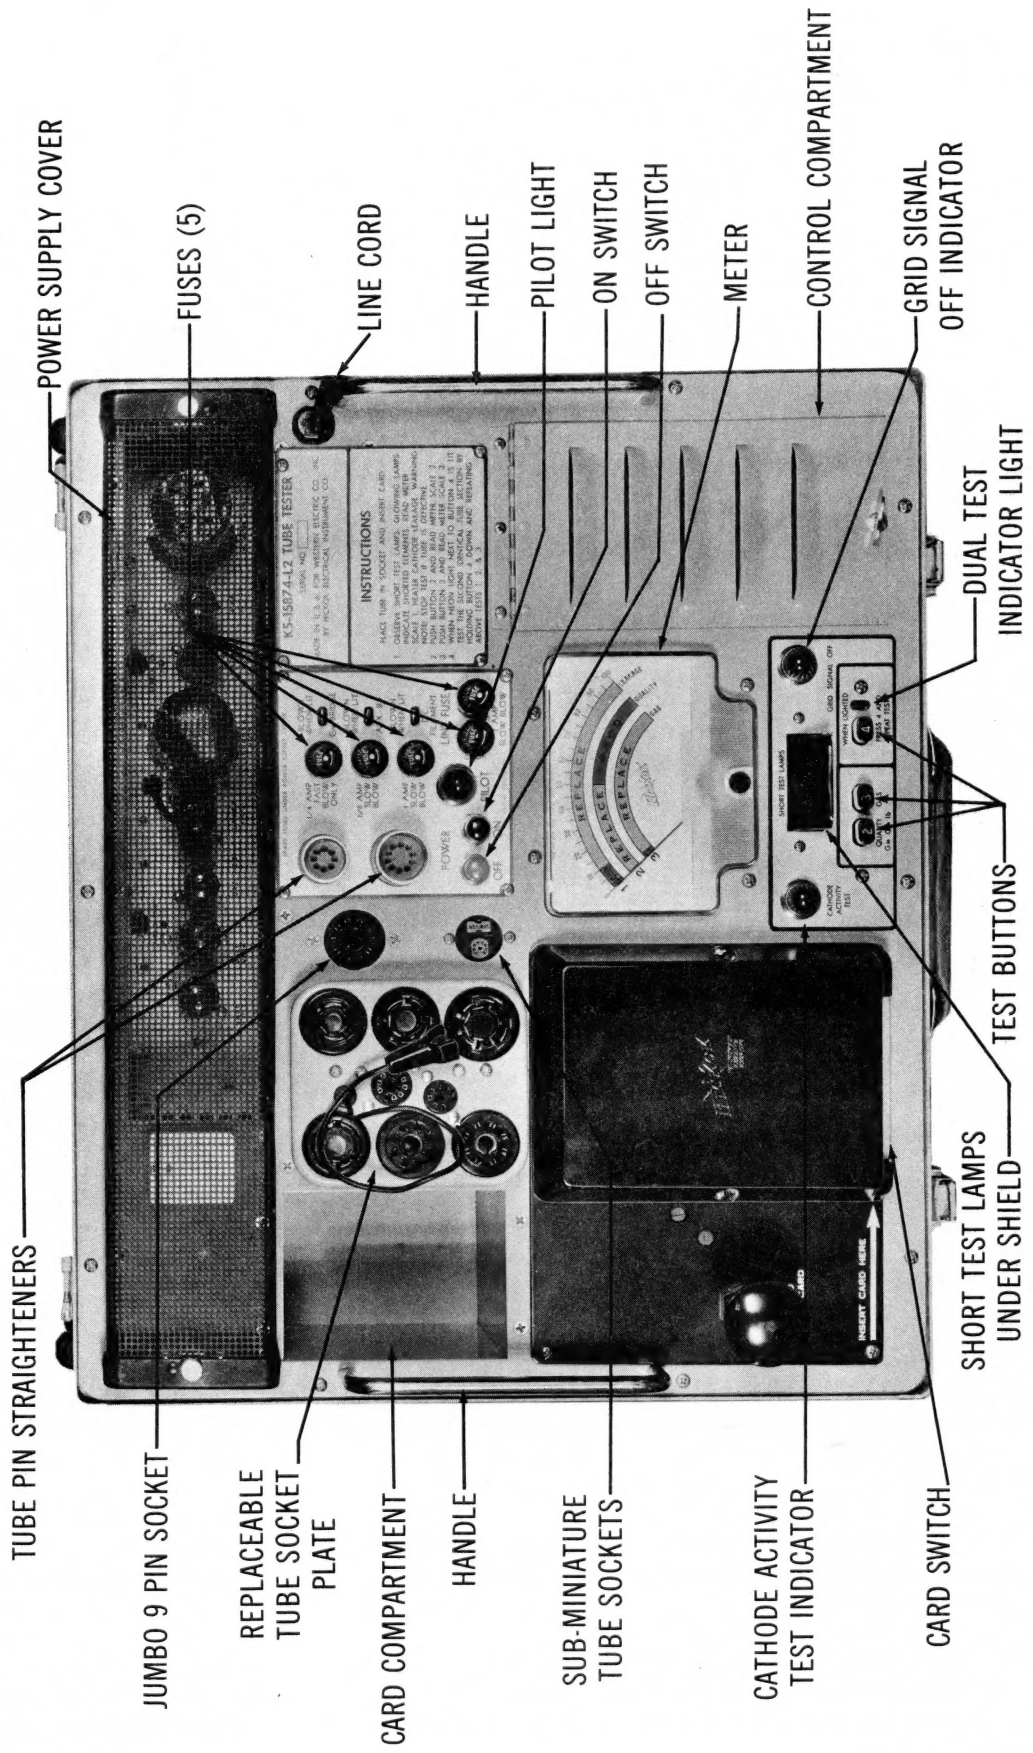

Figure 2 - Identification of Controls and Components
2.04 The front panel is shown in Figure 2. The largest feature is the card switch which has a receptacle for receiving the program cards. When a pre-punched card is fully inserted into the switch it actuates a micro-switch which in turn actuates a solenoid to move the card switch contacts to complete the circuit. When the card switch actuates, the large knob at the left of it pops up. This PUSH TO REJECT CARD knob must be pressed to open the switch contacts and release the card. The card switch actuates only when a card is in the proper position and operates on the principle that absence of a hole in the card makes a contact.